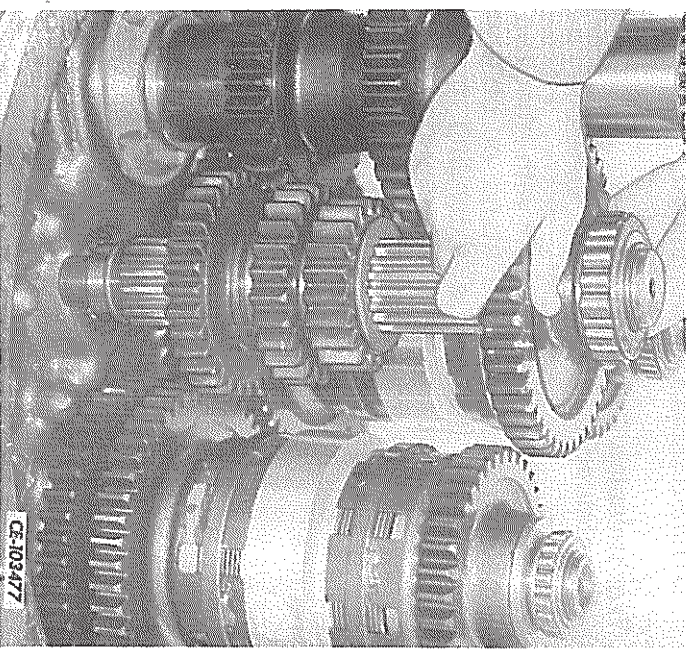
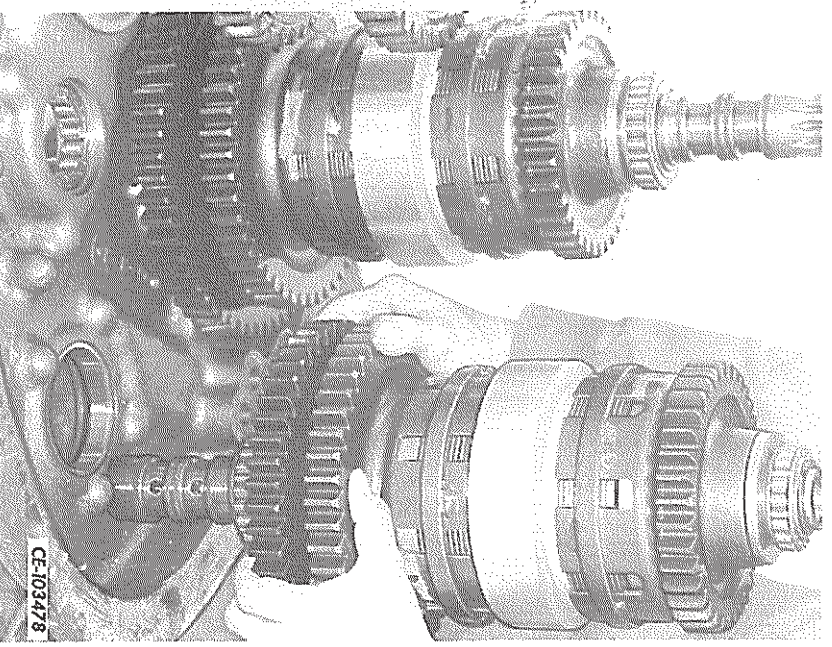

FIG. 27 — Removing the Spline Shaft Assembly
FIG. 28 — Removing the Reverse Clutch Shaft Assembly
18. Lift the spline shaft from the front cover (Fig. 27). Lift the reverse clutch shaft from the front cover (Fig. 28). The front bearing outer races of these shafts will remain in the front cover.
27. Remove the second speed driven gear inner snap ring and slide the hi-lo range driving gear from the shaft (Fig. 27).